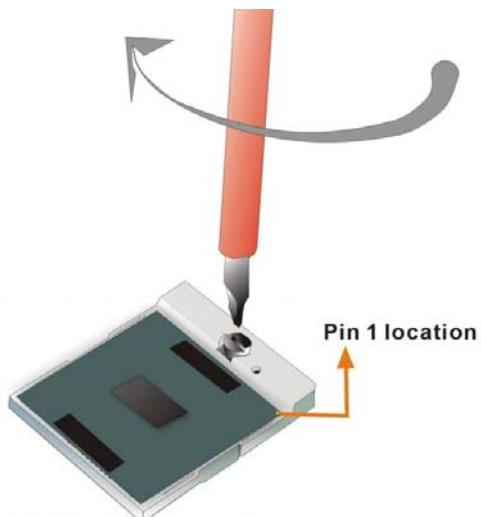

Figure 4-2: Lock the CPU Socket Retention Screw
Step 7: **Lock the retention screw.** Rotate the retention screw into the locked position. See **Figure 4-2**.